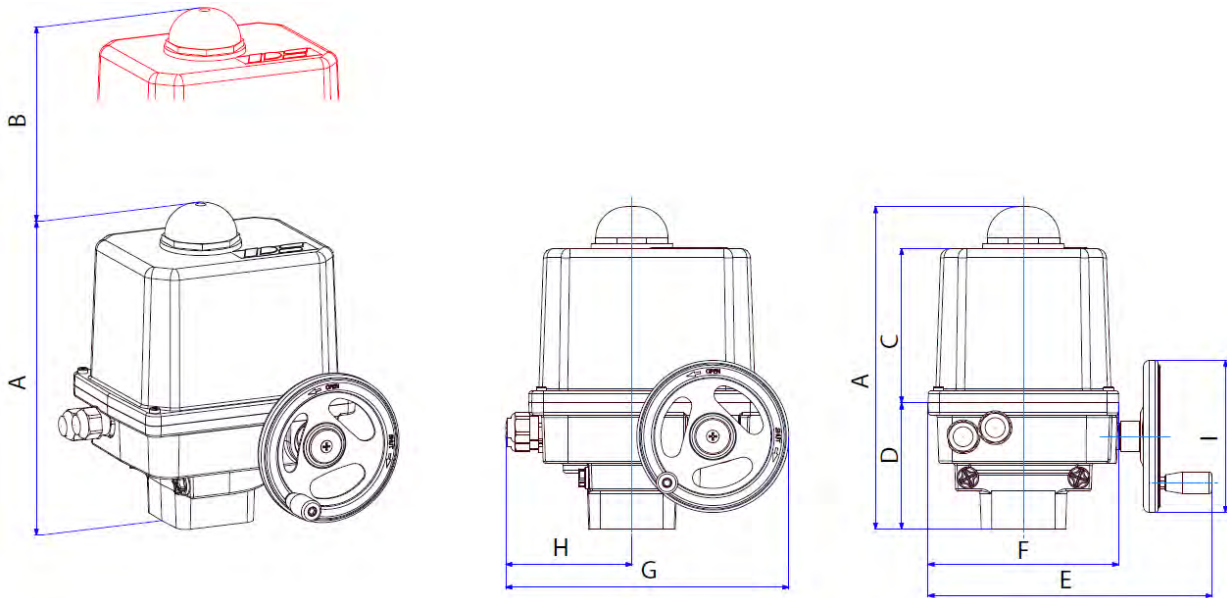

Figure 1: Installation dimensions
- When installing the actuators, leave enough space to permit cover removal (figure 1).